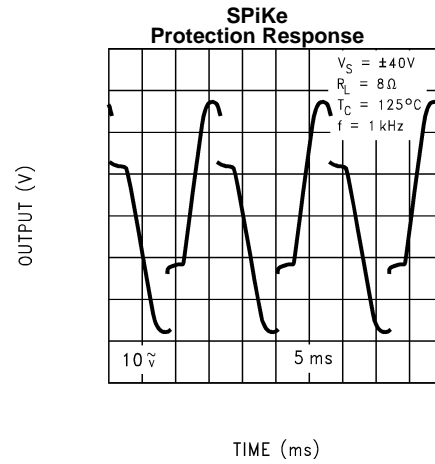

Figure 5.
- (1) All voltages are measured with respect to the GND pin (pin 7), unless otherwise specified.
- (2) Absolute Maximum Ratings indicate limits beyond which damage to the device may occur. Operating Ratings indicate conditions for which the device is functional. Electrical Characteristics state DC and AC electrical specifications under particular test conditions and specific performance limits. This assumes that the device is within the Operating Ratings. The typical value is a good indication of device performance.
- (3) Operation is specified up to 84V, however, distortion may be introduced from **SPiKe** Protection Circuitry when operating above 70V if proper thermal considerations are not taken into account. Refer to the THERMAL CONSIDERATIONS for more information. (See Figure 5)